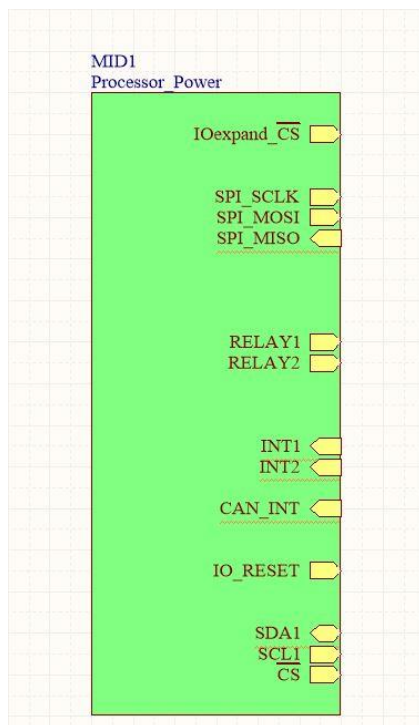

Figure 3. Sheet Symbol Alignment
16. Select and reposition the sheet entries using Figure 3 as reference.